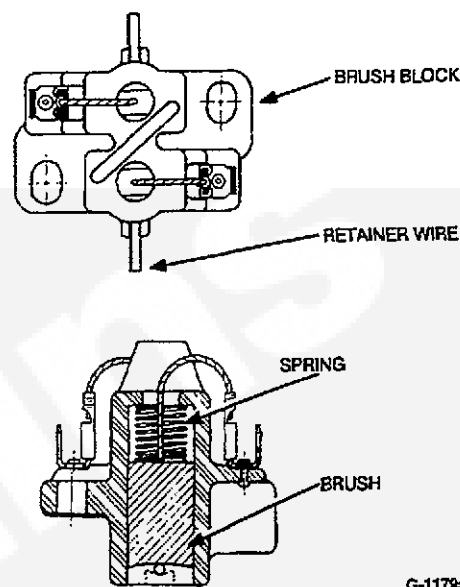

FIGURE 8-9. BRUSH REPLACEMENT
8. While continuing to hold the brushes away from slip rings, insert the brush retainer wire from outside stator housing hole, through brush block assembly. Release both brush lead wires. See Figure 8-9.